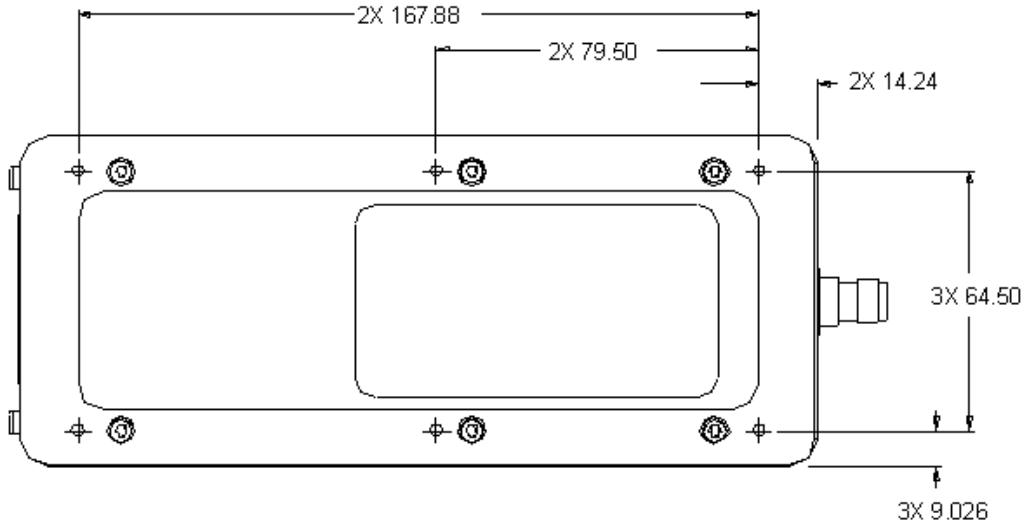

Figure 3: Bottom View
The 9522A LBT incorporates (6) mounting holes on its bottom surface that can aid in its mounting. See Figure 3 for locations of these features. It is recommended that a thread-forming screw be used to mount the 9522A LBT via these features. Particularly, a Textron Camcar® Taptite® II Thread-Rolling Fastener of M3.5x0.6 thread type is recommended. This fastener has a 15IP Torx Plus® pan head and is available in lengths of 6, 8, 12, 16, and 20 mm as part number 3BE-P802-00, 3BE-P803-00, 3BE-P8185-00, 3BE-P804-00, 3BEP8186-00, and 3BE-P8187-00 respectively. Length should be chosen to ensure that penetration into the 9522A LBT housing does not exceed 11 mm. If a 6-32 thread type is desired, a Textron Camcar® Taptite® II Thread-Rolling Fastener with a 15IP Torx Plus® pan head is available in lengths of 1/4, 5/16, 3/8, 1/2, 5/8, 3/4, and 1 inch as part number 3BE-P814-00, 3BE-P8123-00, 3BE-P815-00, 3BE-P816-00, 3BE-P8124-00, 3BE-P817-00, and 3BE-P818-00 respectively. A 10IP Torx Plus® flat head version is also available in a single length of 1/2 inch as part number 3BE-P801-00. Another 6-32 thread type option is to insert a helical coil insert with a 6-32 internal thread into these features thus accommodating 6-32 threaded fasteners as mounting hardware for the 9522A LBT. National Aerospace Standard NASM122238 serves as a technical reference for the recommended helical coil insert.